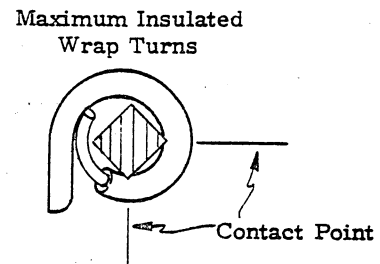

Fig. B-6
The connection shall have a minimum of one (1) complete turn with two (2) corner contact points of insulated wrap turns. (See Fig. B-6.) Wraps with more than the maximum insulation turns, as listed in the following table, are to be accepted unless the excess insulated turns cause additional defects.